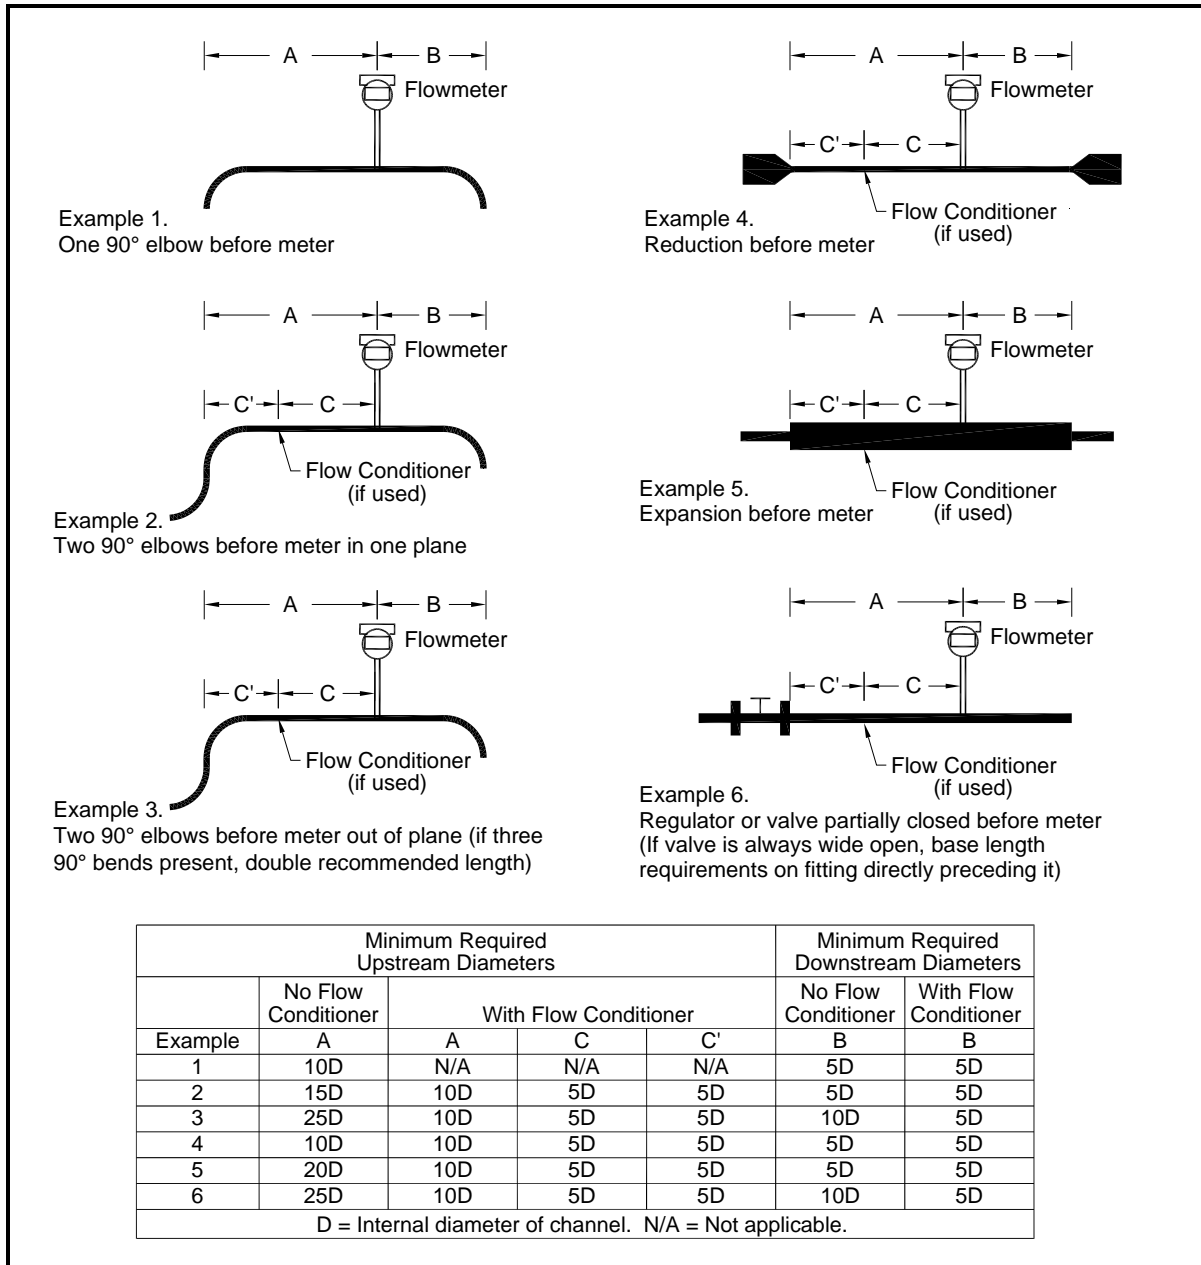

Figure 4: Recommended Pipe Length Requirements for Installation - Series MV80 & MV82
2. The location meets the required minimum number of pipe diameters upstream and downstream of the sensor head as illustrated in Figure 4 on page 10.
2. Confirm that the installation site meets the minimum upstream and downstream pipe diameter requirements. See Figure 4 on page 10.